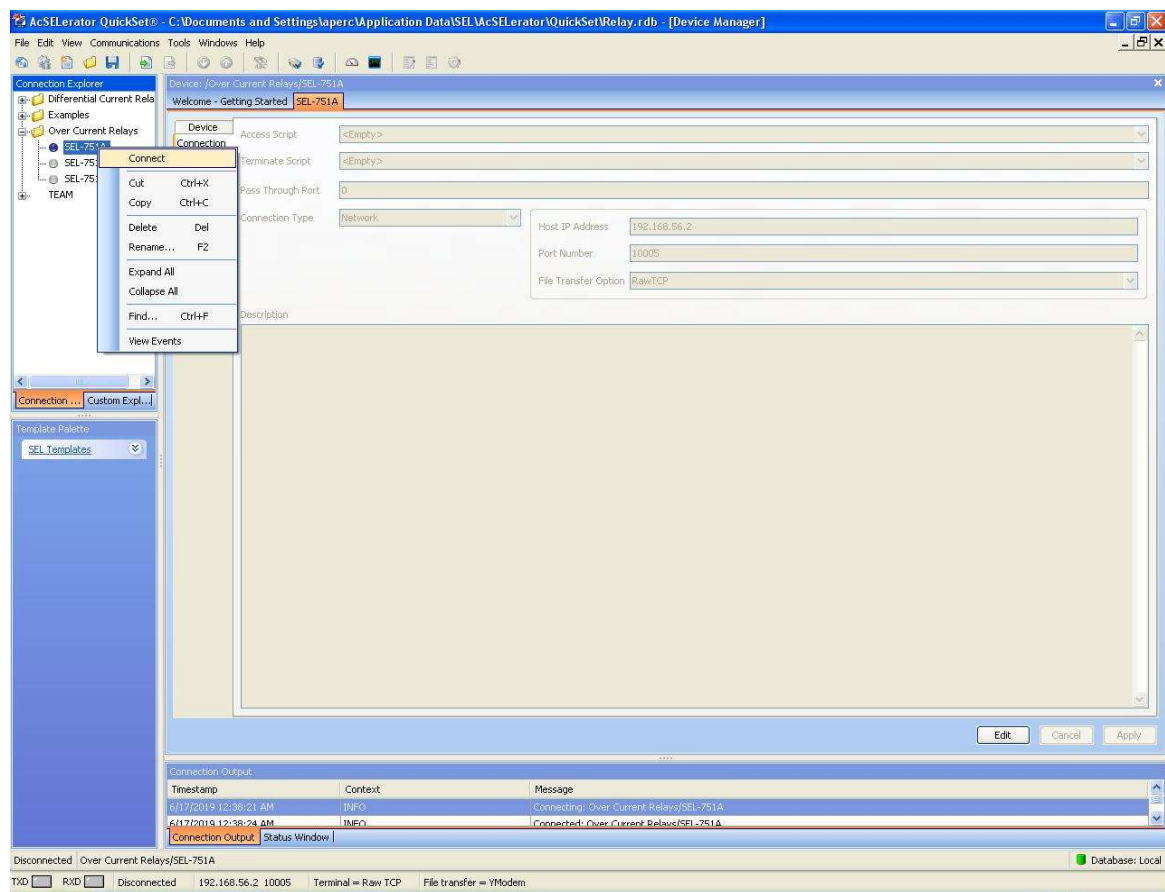

Figure 4.32 Connecting a relay with QuickSet
- 5) Once the communication parameters for the device are set, then the connection with device is made by right clicking on the device name under folder name on the left-pane. The first option on the window that appears 'Connect' is then selected. This is shown in Figure 4.32.